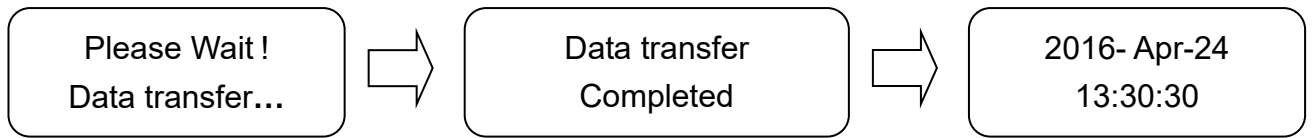

Figure 32
- b) After completing a sterilization cycle, the data will be stored to USB flash drive; and the recorder returns to stand-by mode. The sequences of storage message are shown in the Figure 32.